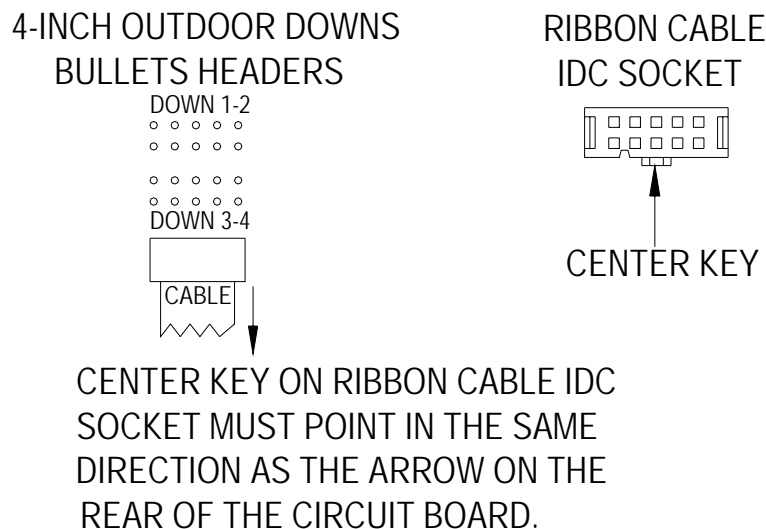

Figure 16 Down Indicators Ribbon Cable Connection Diagram
9. The circuit board used for the DOWN indicators has two headers. Refer to figure 16 in order to plug the ribbon cable IDC connector onto the correct header on the circuit board in the proper orientation.